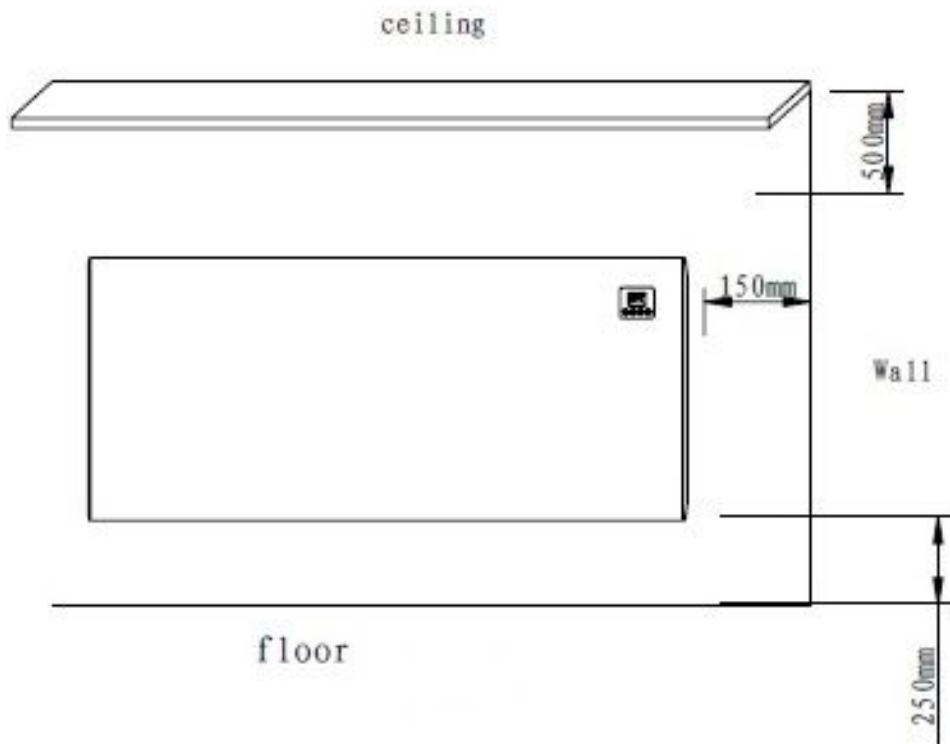

Fig.2
2. The heater should be placed with a minimum distance 150mm from all objects, walls (fig 2). The distance from the floor must be 220mm, from the top must be 150mm. (See figure"2").